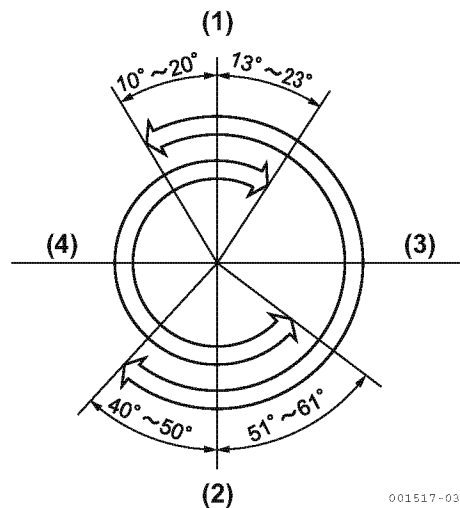

Figure 5-84
- Check the valve timing. Be sure that the opening and closing angles for both the intake and the exhaust valves are checked when the timing gear is disassembled (the gauge on the flywheel can be read). All JH series engines use the same valve timing procedure (**Figure 5-84**).